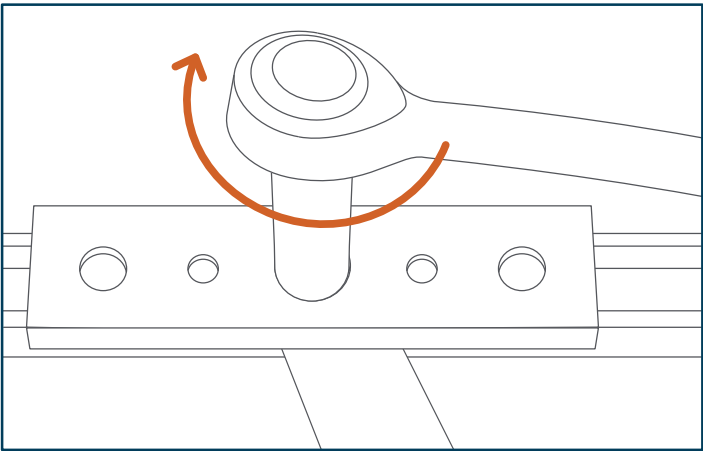

Fig. 1 - Fit up adjustment of a UtiliTrak® linear guide
- Step 2:** Looking down on the top of the wheel plate, as shown in Fig. 1, the eccentric stud is locked into place with a hex nut.